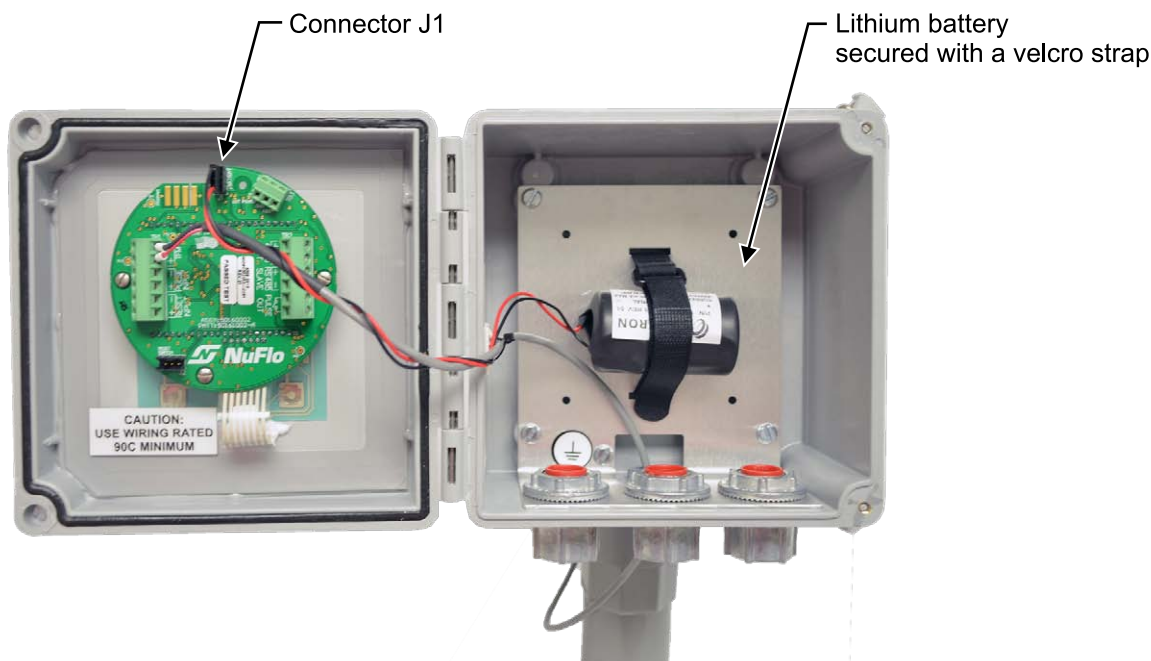

Figure 6.1—Lithium battery replacement
2. Loosen the velcro strap, disconnect the battery from the connector J1 on the circuit assembly, and remove the battery from the enclosure (Figure 6.1, page 90). Send the depleted battery to a fully permitted Treatment, Storage and Disposal Facility (TSDF) or to a permitted recycling/reclamation facility, as required by federal regulations (see Appendix B).